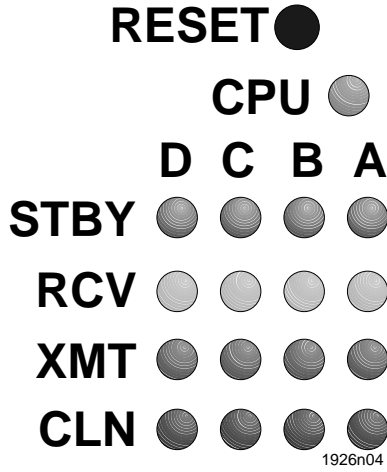

Figure 3-4 EMM-E6 LANVIEW LEDs
8. Observe the status of the LANVIEW LEDs (Figure 3-4) on the EMM-E6. When the CPU LED is amber, the module is in boot state. During this approximately one minute period the EMM-E6 cycles through a series of internal diagnostics.